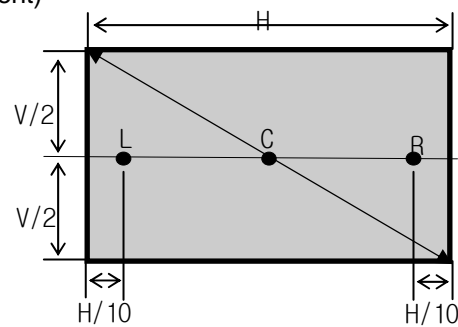

Figure 11. Response time
4. Response time is the time required for the display to transition from white to black(Rise Time, Tr_R) and from black to white(Decay Time, Tr_D). For additional information see [Figure 11].